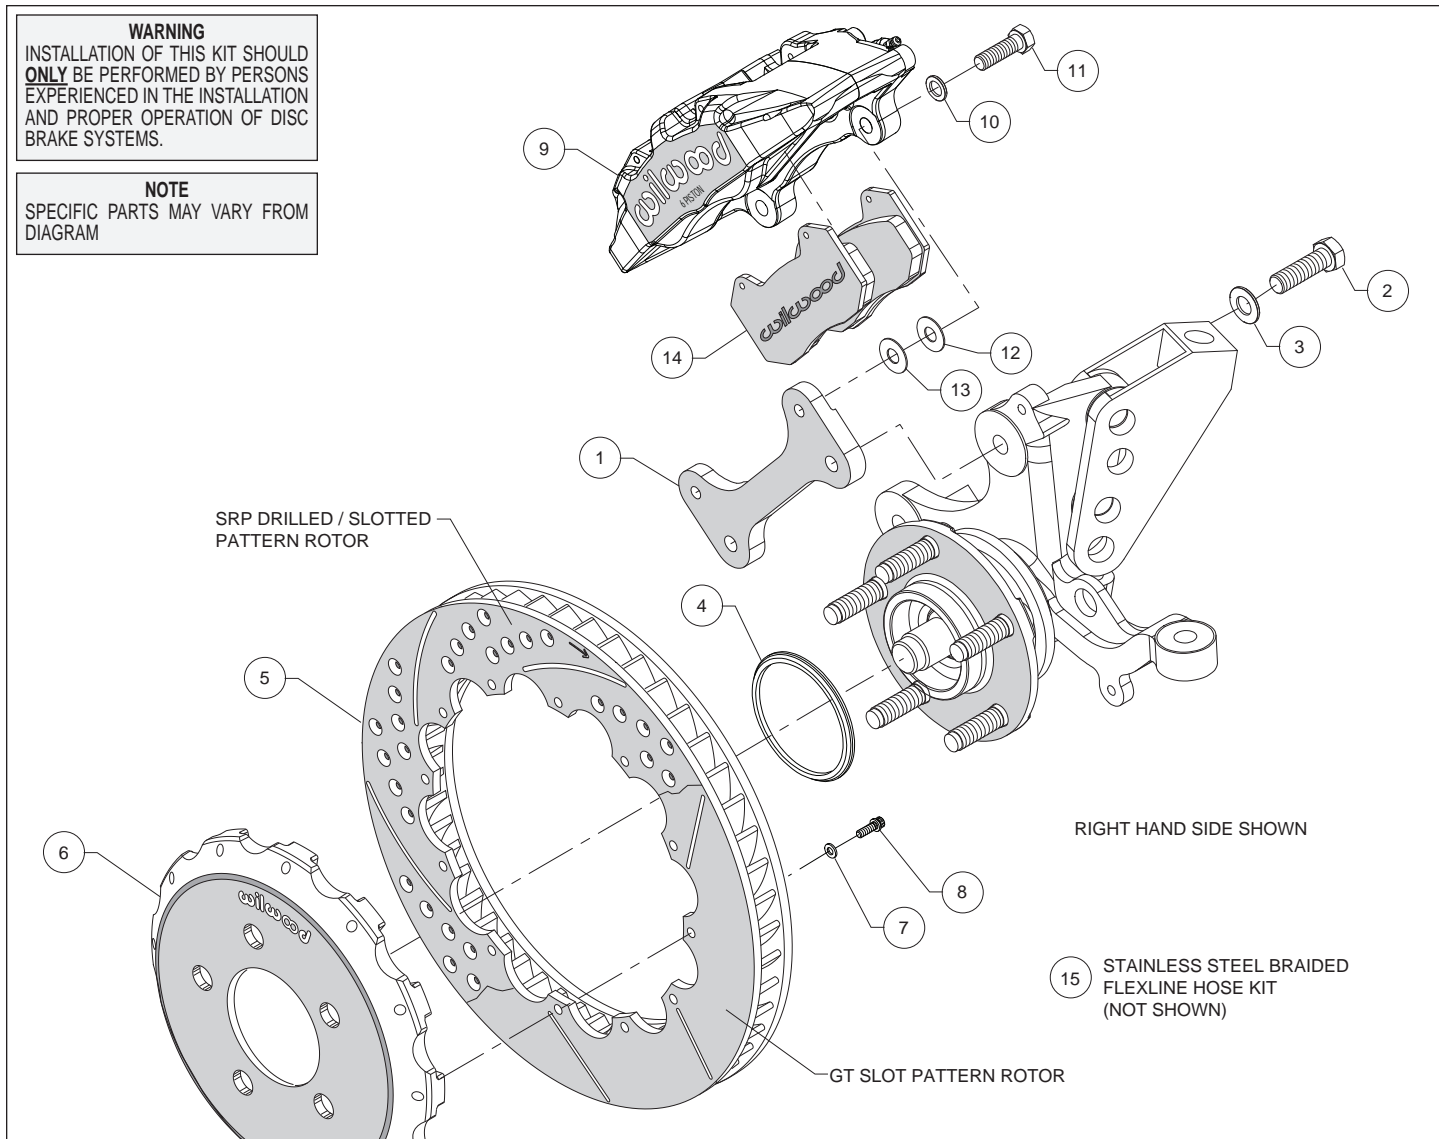
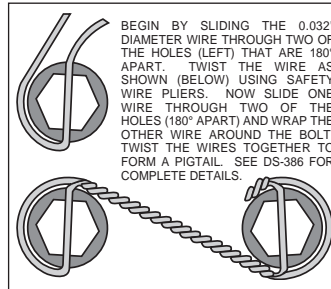

Figure 1. Typical Installation Configuration
Figure 3. Safety Wire Diagram
**Assembly Instructions** (numbers in parenthesis refer to the parts list and Figure 1 on the preceding pages):
- Orient the caliper mount bracket (1) as shown in Figure 1 and Photo 1, and install using bolts (2) and washers (3). Temporarily tighten the mounting bolts. **NOTE:** *The bracket must fit squarely against the mount bosses on the upright.* Inspect for interference from casting irregularities, machining ridges, burrs, etc. Remove bolts one at a time, apply red *Loctite*® 271 to the threads and torque to 60 ft-lb.
- Orient the rotor (5) and the hat (6) as shown in Figure 1 and Photo 2. Attach rotor to hat using bolts (8) and washers (7). Using an alternating sequence, apply red *Loctite*® 271 to the threads and torque bolts to 155 in-lb. For an added measure of security, the bolts may be safety wired using standard 0.032 inch diameter stainless steel safety wire as shown in Figure 3. Please refer to Wilwood's data sheet DS-386 (available at [www.wilwood.com/Pdf/DataSheets/ds386.pdf](http://www.wilwood.com/Pdf/DataSheets/ds386.pdf)) for complete safety wire installation instructions.
- Slide the rotor registration adapter (4) onto the axle register on the axle hub with the smaller O.D. facing toward the rotor/hat (5/6), Photo 3. Slide the hat/rotor assembly onto the axle hub, Photo 4. **NOTE:** *The hat must fit flush against the axle hub flange or excessive rotor run out may result.* Install three lug nuts (finger tight) to keep the hat/rotor assembly in place while continuing with the installation.
- **NOTE:** *This kit contains distinct right and left hand calipers that must be mounted in a specific direction, as described below.* Mount the caliper (9) onto the caliper mounting bracket (1) using bolts (11) and washers (10), as shown in Figure 1. Initially place one each .016" thick shim (12) and .035" thick shim (13) on each bolt between the caliper and the bracket, Figure 1 and Photo 5. Ensure that the caliper is mounted so the largest pistons are at the rotor exit end of the caliper, in relation to the direction of rotor rotation. Temporarily tighten the mounting bolts and view the rotor (5) through the top opening of the caliper. The rotor should be centered in the caliper, Photo 6. If not, adjust by adding or subtracting shims (12 and/or 13) between the bracket and the caliper. Always use the same amount of shims on each of the two mounting bolts. Once the caliper alignment is correct, remove the mounting bolts and caliper.
- Remove the two pad retaining pins from the caliper (9) by carefully popping out the pin retaining clips and sliding out the pins. Insert the brake pads (14) into the caliper from the bottom, Figure 1 and Photo 7, with the friction material facing the rotor. Secure the brake pads in place with the pad retaining pins and clips, Photo 8. Reinstall the caliper onto the caliper mounting bracket. Apply red *Loctite*® 271 to bolt threads (11), and torque to 35 ft-lb.